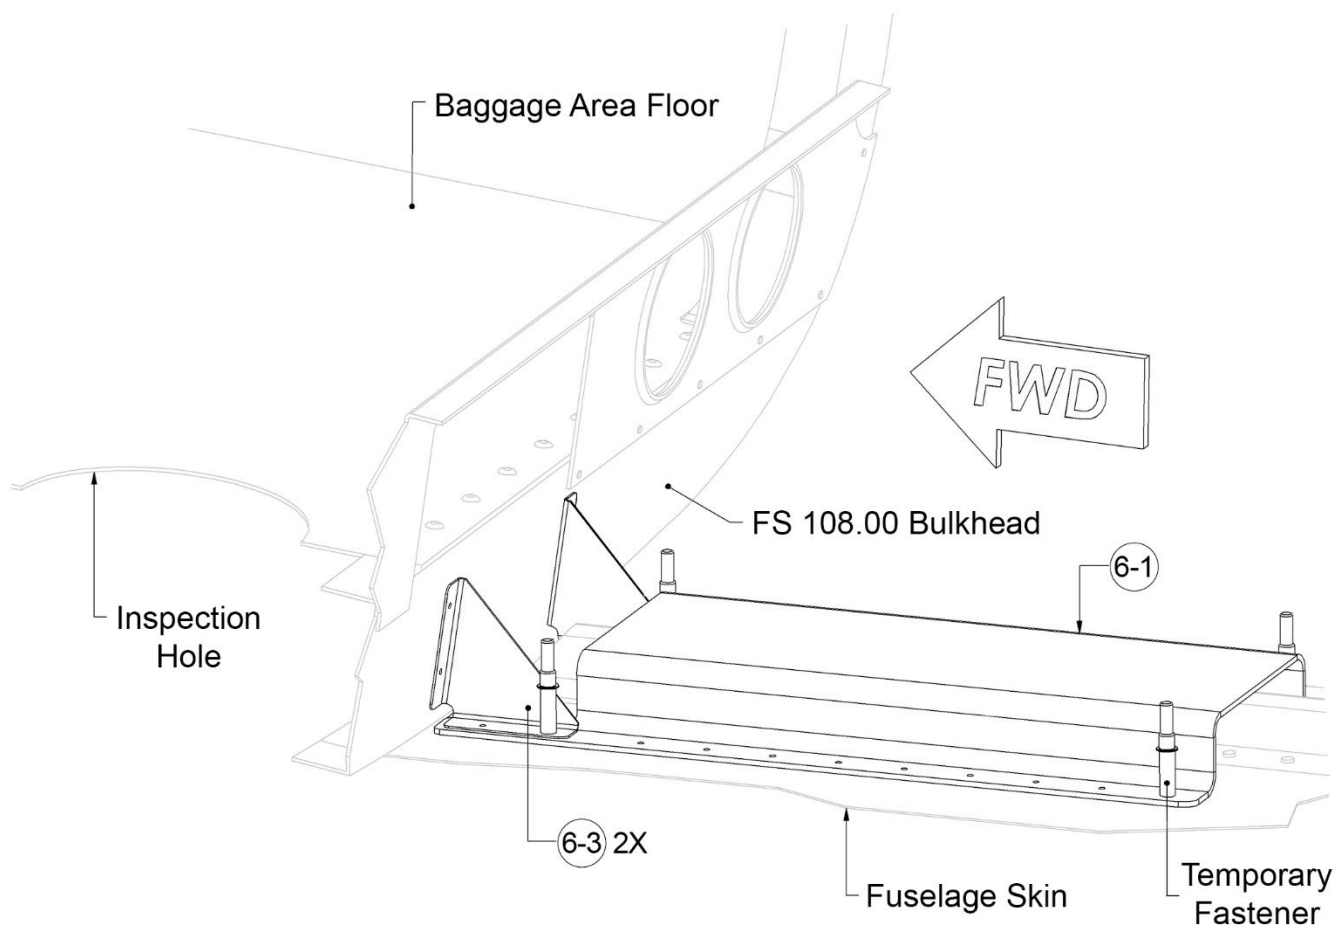

Figure 18: Base Bracket and Angle Brackets Positioned for Drilling
3. Using pilot holes in base bracket, match drill #40 holes through fuselage skin, making sure bracket stays in position. Install temporary fasteners to hold bracket in place (see Figure 18).
4. Temporarily fasten angle brackets to base bracket, as shown in Figure 18.